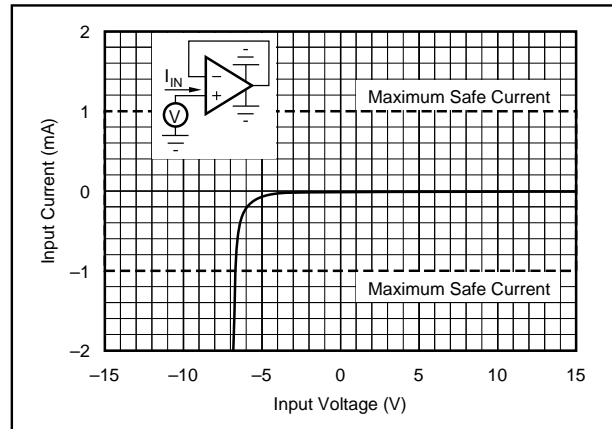

FIGURE 2. Input Current vs Input Voltage with  $\pm V_{CC}$  Pins Grounded.
NOTES: (1) Packages must be derated based on  $\theta_{JA} = 90^{\circ}\text{C/W}$  for PDIP and  $100^{\circ}\text{C/W}$  for SOIC. (2) For supply voltages less than ±18VDC, the absolute maximum input voltage is equal to  $+18\text{V} > V_{IN} > -V_{CC} - 6\text{V}$ . See Figure 2. (3) Short circuit may be to power supply common only. Rating applies to +25°C ambient. Observe dissipation limit and  $T_J$ .
Unlike BIFET amplifiers, the *Difet* OPA124 requires input current limiting resistors only if its input voltage is greater than 6V more negative than  $-V_{CC}$ . A  $10\text{k}\Omega$  series resistor will limit input current to a safe level with up to  $\pm 15\text{V}$  input levels, even if both supply voltages are lost (Figure 2).